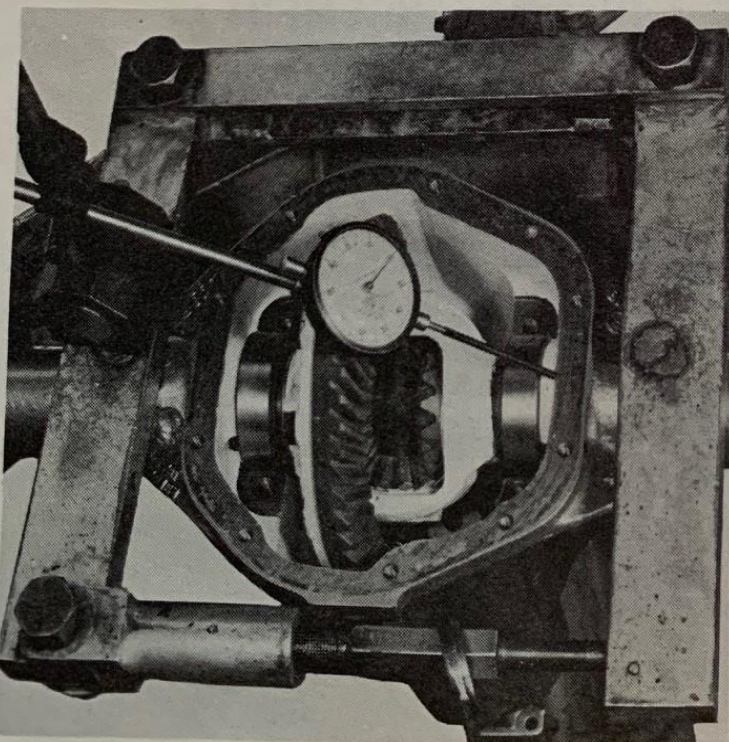

Fig. 3
6. Install a Carrier Spreader Tool. (See Fig. 3.)